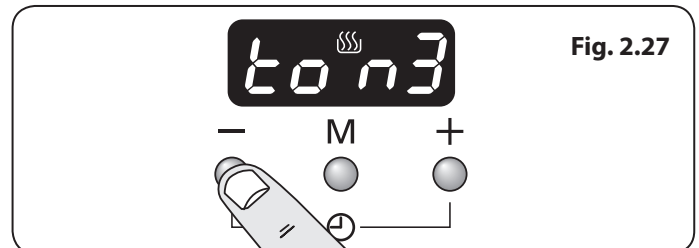

Fig. 2.27
2. To select the tone press the [-] button until desired tone is reached (**Fig. 2.27**).